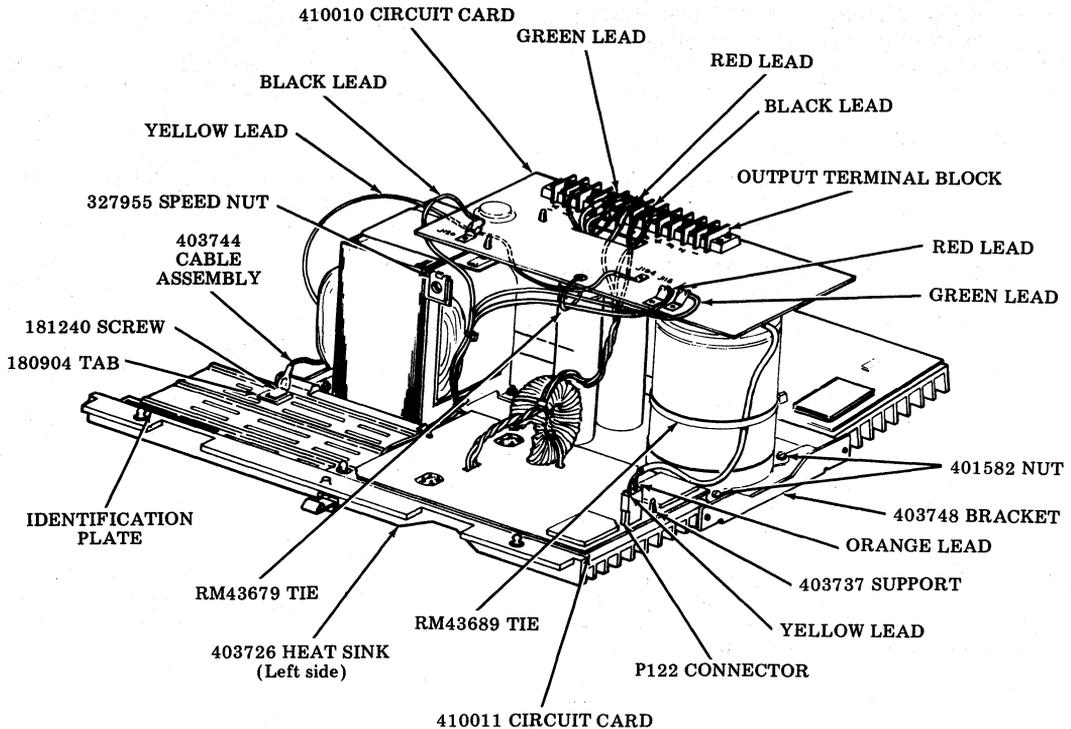

Fig. 34
3.13 To remove 410011 circuit card (Fig. 34 and 36):
- (c) Make sure leads from 410011 circuit card to 410010 circuit card are twisted as shown in Fig. 34.